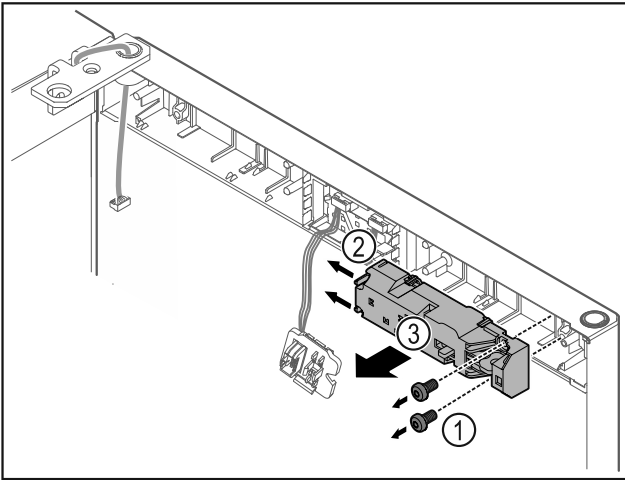

Fig. 12
- ▶ Remove the screws Fig. 12 (1).
- ▶ Press the latching lugs Fig. 12 (2) to the side and take off the remote lock Fig. 12 (3).